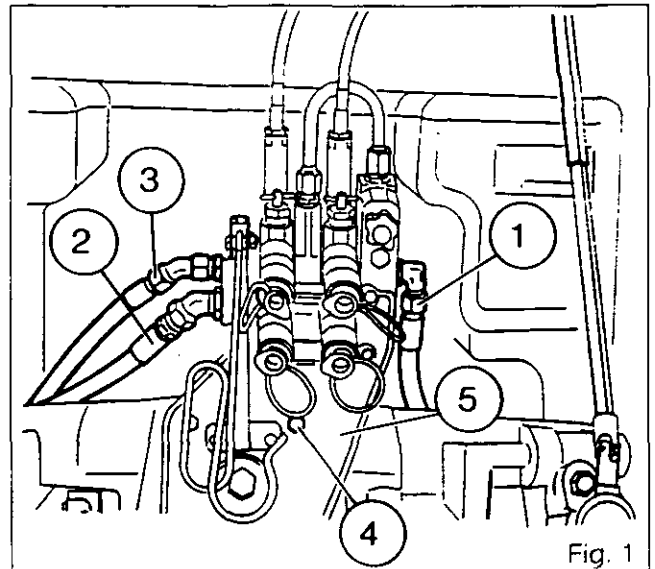

Fig. 1
1. Disconnect (Fig. 1):
- the auxiliary spool valve supply hose (1)
- the supply hose of the lift valve (3)
- the return hose (2)
2. Remove the bolts (4) of the auxiliary spool valve support (5) (Fig. 1).
17. Smear the threads of the two lower bolts (4) with Loctite 510. Fit and tighten the bolts (4) to a torque of 50-70 Nm (Fig. 1).
18. Reconnect (Fig. 1):
- . the spool valve supply hose (1)
- . the supply hose of the lift valve (3)
- . the return hose (2).